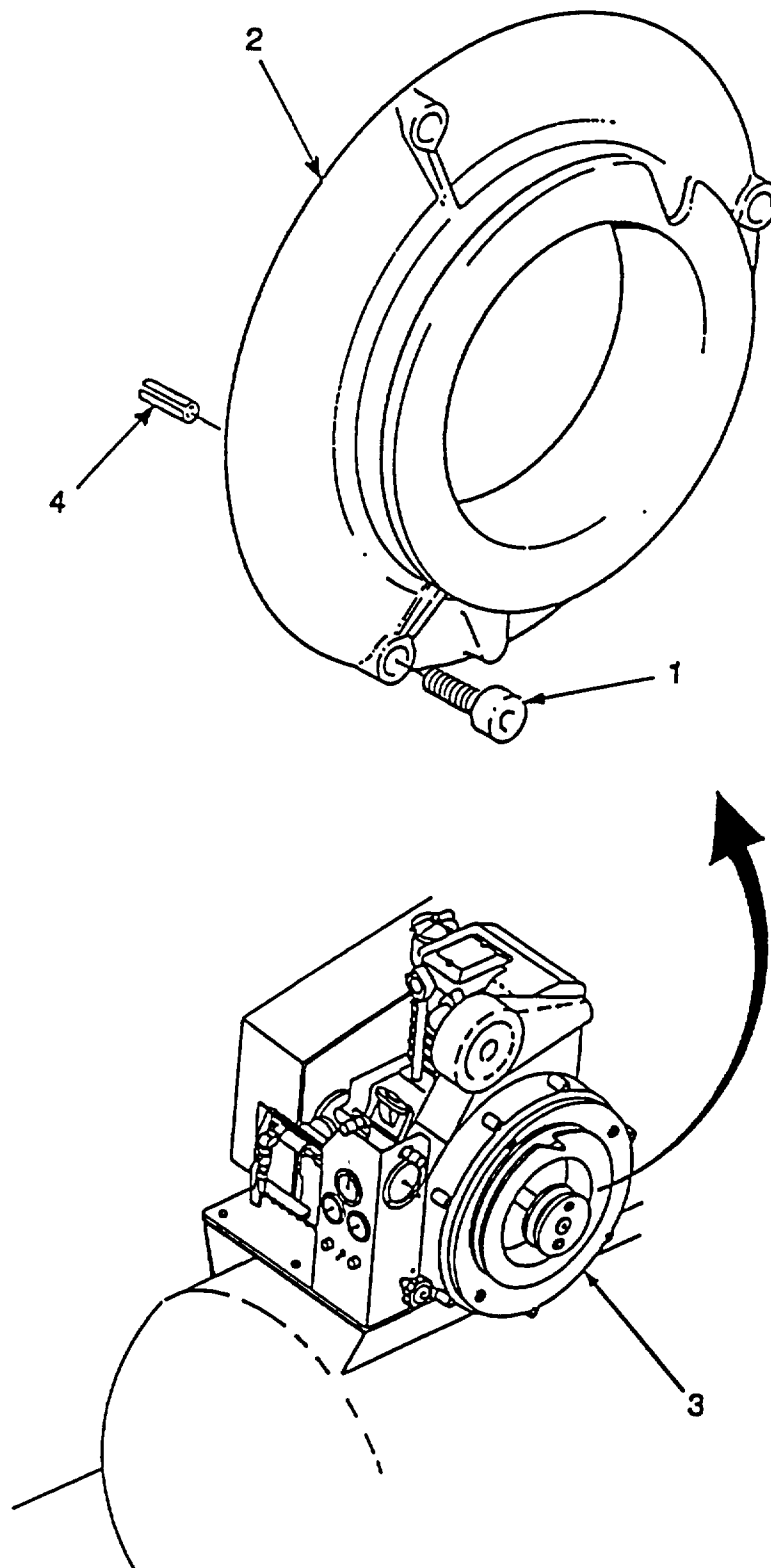

Figure 4-37. Rope Start Assembly
(1) Removal. (Refer to Figure 4-37).